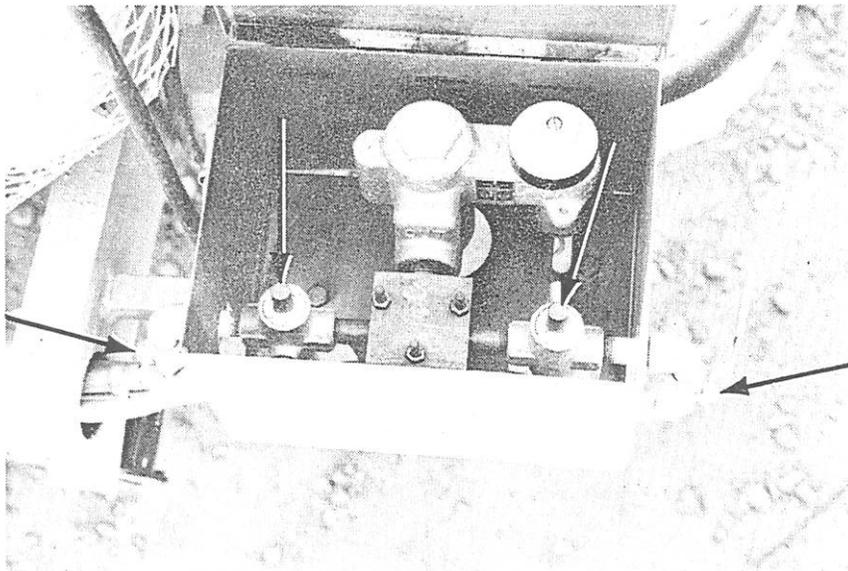

Figure 7 - Pilot Buttons and
3. Hold pilot buttons down (red buttons in control box). See Figure 7. NOTE: Use of a sharp object such as a pencil may help in holding buttons in. Light the pilots and continue to press firmly on buttons for at least 30 seconds.
4. Open each main burner valve. Refer to Figure 7.
1. Close main burner valves (Figure 7).